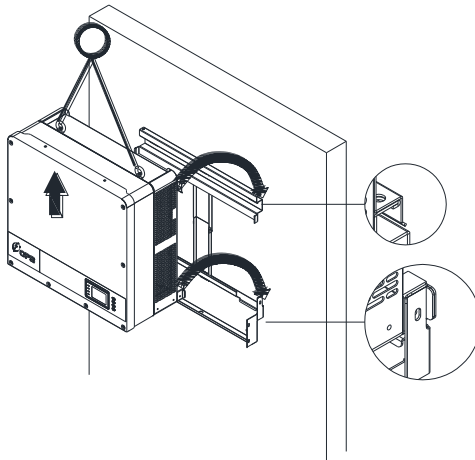
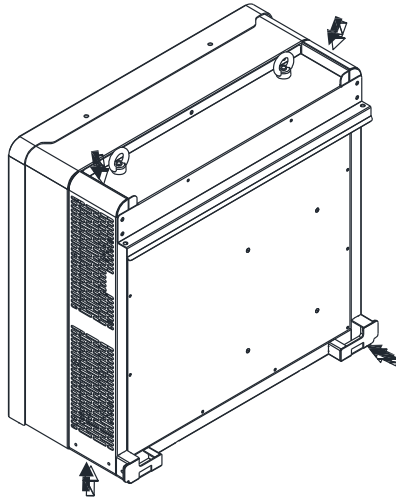

Figure 3-8 Mount the Main Enclosure on the Bracket by Lifting Sling
Figure 3-9 Grab Handle Position
2. Hang the inverter onto the mounting bracket as shown in Figure 3-8 and Figure 3-9:
- b. Manual mounting: Two people are required to safely lift the inverter by the handle positions marked in Figure 3-9, and mount it onto the bracket.